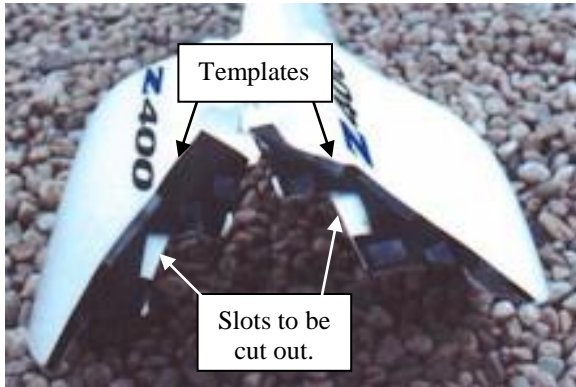

FIGURE 3
7. Using the templates provided as **rough guides only**, cut them out and tape them to the appropriate side panel. Mark the location of the slots using a pencil, FIGURE 3, use a sharp razor knife to cut the slots in the plastic side panels to allow the lower mounting brace to pass through. **Cut off small amounts of plastic at a time!** Take your time and check the fit of the plastic often. (Remember that you need to have the rack side supports in the correct position! STEP 8, 9 and FIGURE 4